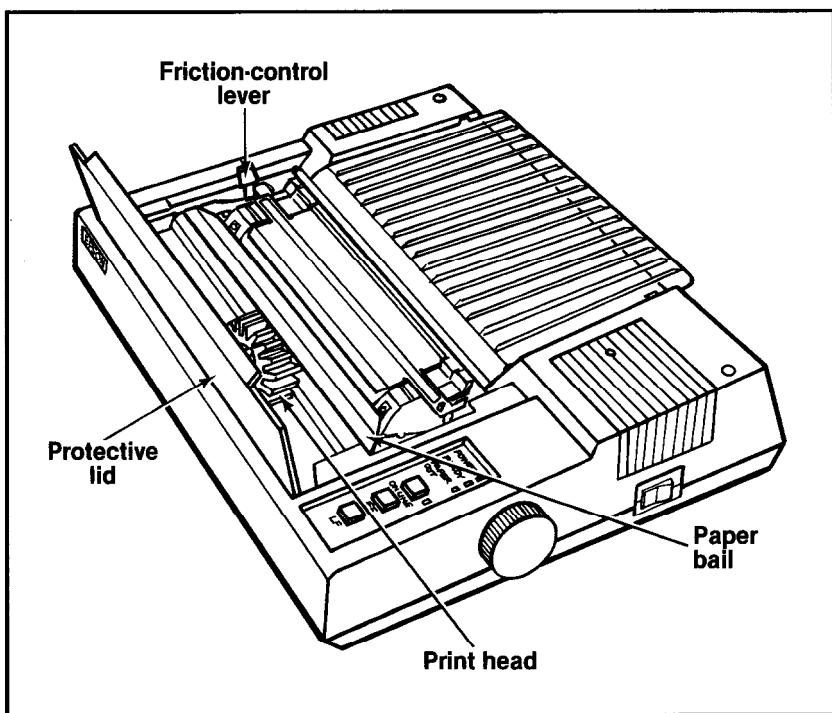

Figure 1-12. Printer readied for paper insertion
- Pull the paper bail and the friction-control lever toward the front of the printer. Your printer should now look like Figure 1-12.
- Be sure the printer is turned off. Lift the front protective lid and move the print head to the middle of the platen (refer back to Figure 1-12). Pull the paper bail up.
- Pull the paper bail and the friction-control lever toward the front of the printer (refer back to Figure 1-12).